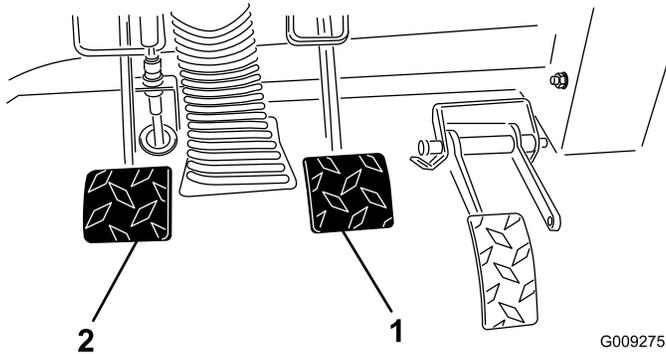

Figure 70
2. Lift up on the brake pedal (Figure 70) until it contacts the frame.
3. Loosen the jam nuts securing the yoke to the master cylinder shaft (Figure 70).